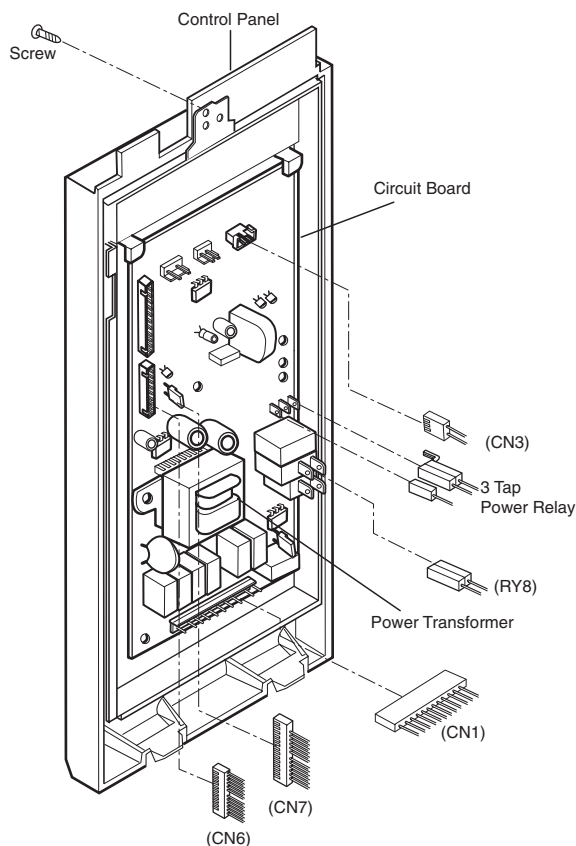

Figure 1
A. REMOVING POWER AND CONTROL CIRCUIT BOARD (Figures 1, 2 and, 3)
- (1) Remove a screw securing the control panel assembly to the oven cavity.
- (2) Remove the control panel with pushing it upward.
- (3) Remove the connectors (CN1, CN3, CN6, CN7) and wire leads (3 Tap Power Relay, RY8) from the circuit board.